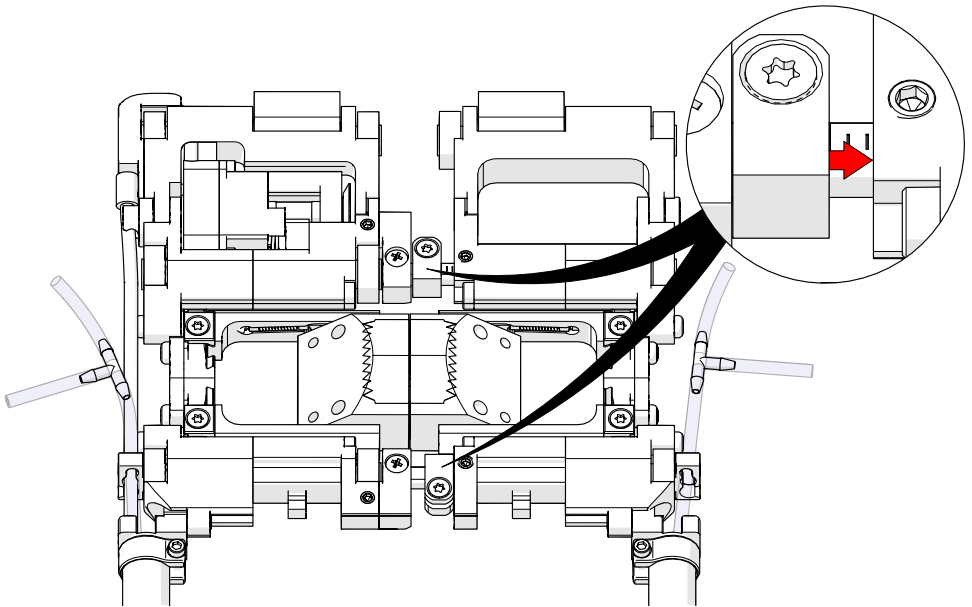

Fig. 75 - Position wedge separation indicators
6. Ensure the wedges continue to touch while sliding the wedge separation indicators to contact the dual side of the scanner (Fig. 75).